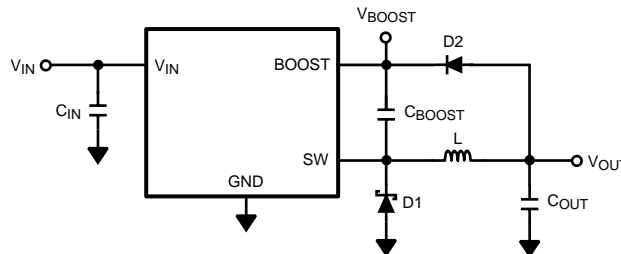

**Figure 20. LMR12007 Waveforms of SW Pin Voltage and Inductor Current**
The following operating description of the LMR12007 will refer to the Simplified Block Diagram (Figure 19) and to the waveforms in Figure 20. The LMR12007 supplies a regulated output voltage by switching the internal NMOS control switch at constant frequency and variable duty cycle. A switching cycle begins at the falling edge of the reset pulse generated by the internal oscillator. When this pulse goes low, the output control logic turns on the internal NMOS control switch. During this on-time, the SW pin voltage ( $V_{SW}$ ) swings up to approximately  $V_{IN}$ , and the inductor current ( $I_L$ ) increases with a linear slope.  $I_L$  is measured by the current-sense amplifier, which generates an output proportional to the switch current. The sense signal is summed with the regulator's corrective ramp and compared to the error amplifier's output, which is proportional to the difference between the feedback voltage and  $V_{REF}$ . When the PWM comparator output goes high, the output switch turns off until the next switching cycle begins. During the switch off-time, inductor current discharges through Schottky diode D1, which forces the SW pin to swing below ground by the forward voltage ( $V_D$ ) of the catch diode. The regulator loop adjusts the duty cycle (D) to maintain a constant output voltage.
In the Simplified Block Diagram of Figure 19, capacitor  $C_{\text{BOOST}}$  and diode D2 supply the gate-drive current for the NMOS switch. Capacitor  $C_{\text{BOOST}}$  is charged via diode D2 by  $V_{\text{IN}}$ . During a normal switching cycle, when the internal NMOS control switch is off ( $T_{\text{OFF}}$ ) (refer to Figure 20),  $V_{\text{BOOST}}$  equals  $V_{\text{IN}}$  minus the forward voltage of D2 ( $V_{\text{FD2}}$ ), during which the current in the inductor (L) forward biases the Schottky diode D1 ( $V_{\text{FD1}}$ ). Therefore the voltage stored across  $C_{\text{BOOST}}$  is